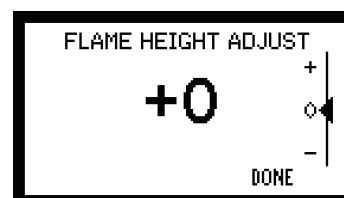

Figure 9.3
- Adjust the flame height using the "FLAME HEIGHT ADJUST" screen on the wall control. **Figure 9.3.**